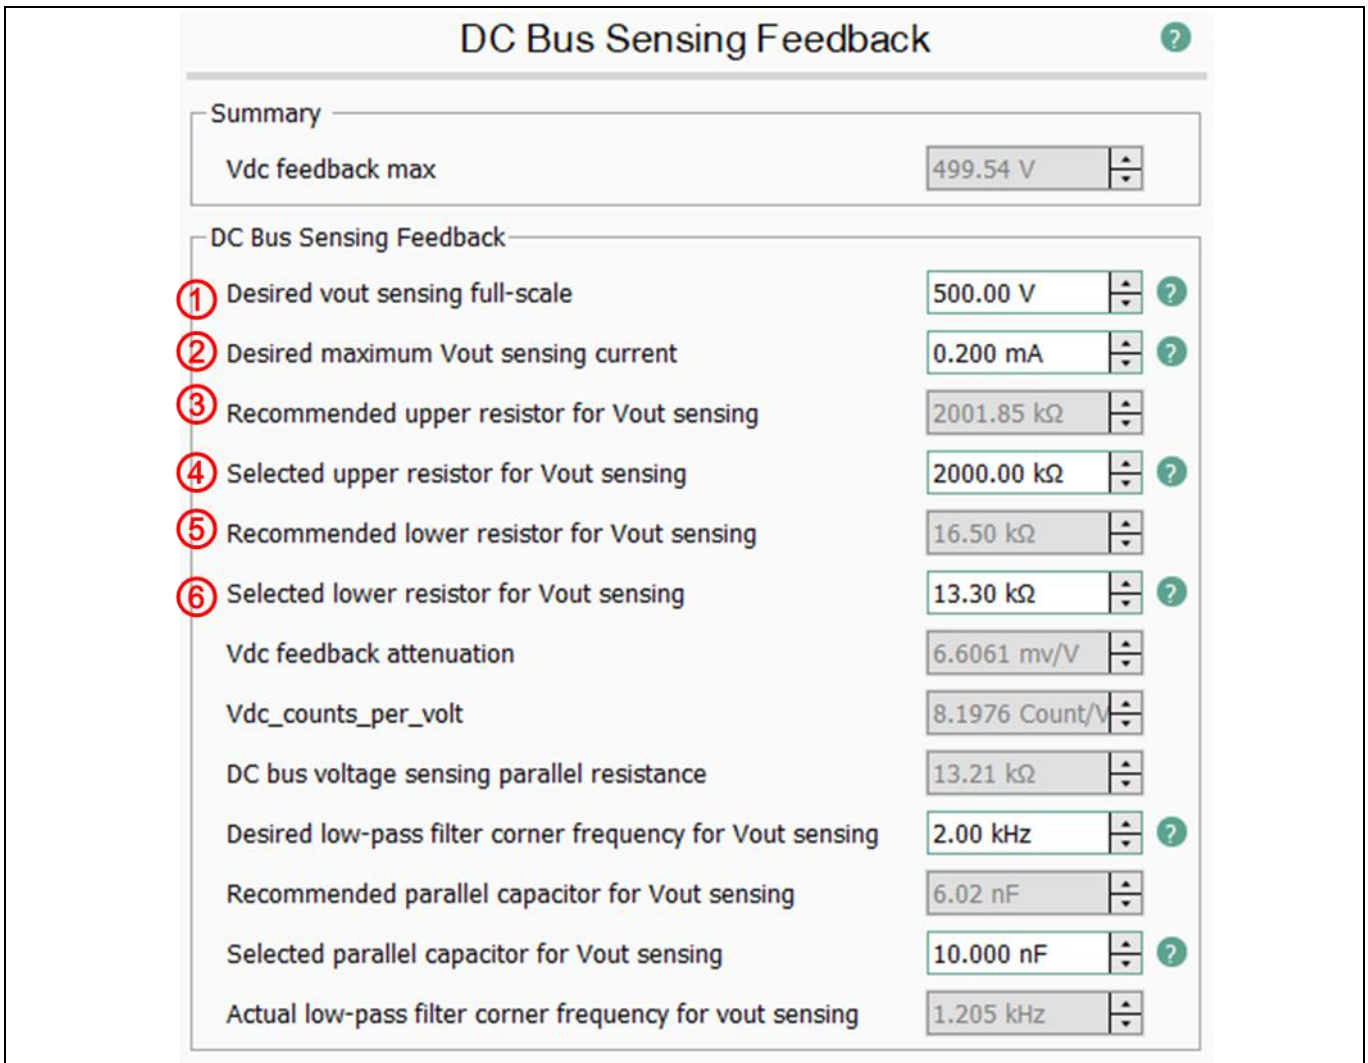

Figure 7 Automatic Calculation of Parameter Values for Recommendation
Some parameters are grey-hatched and users cannot change the value. The value of these variables is automatically calculated by the iSD based on user input, so users can check whether circuit configuration is correct or not. One example is shown in Figure 7. When the user inputs (1) and (2), (3) and (5) are calculated automatically as recommended by the iSD. Users can refer to these values and input the actual circuit configuration in (4) and (6). The iSD calculates MCE parameter values based on user input (4) and (6).